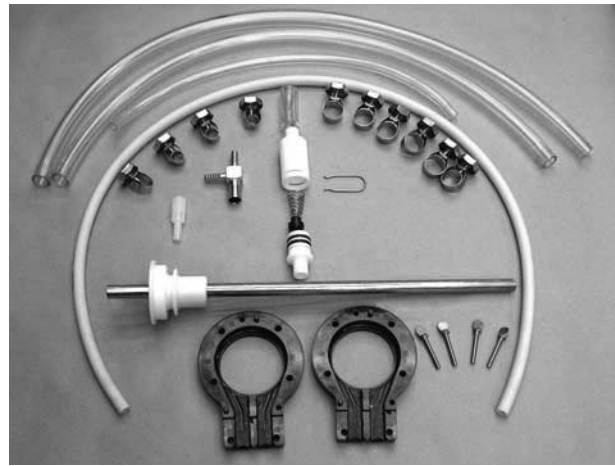

Figure 3-10 Mix Pump Removable Parts
- C. Completely disassemble the hose assembly and the check valve (Fig. 3-10). Place hoses, tee, check valve assembly, and pickup hose adapter in 90° to 110°F (32°C to 43°C) mild detergent water and wash thoroughly. Use soft bristle brushes to clean inside of fittings. Rinse all parts in clean 90° to 110°F (32°C to 43°C) water.